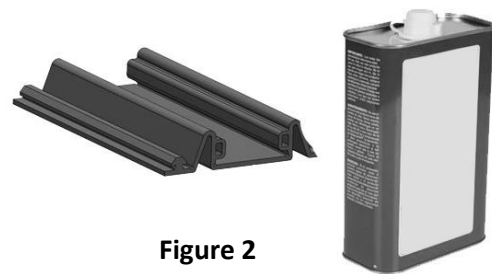

Figure 2
2. Attach the aluminum extrusions with an appropriate length drywall screw (by installer), making sure it penetrates the substrate. When attaching to a concrete wall, drill a hole into concrete using a  $\text{Ø}5/32$ " masonry bit and attach using  $\text{Ø}3/16$ " Tapcon anchors (by installer). Extrusions should be set back  $\frac{1}{4}$ " from wall face as shown in Figure #1. **See Figure 2**
2. Attach the aluminum wall extrusions with an appropriate length drywall screw (by installer), making sure it penetrates the substrate. When attaching to a concrete wall, drill a hole into concrete using a  $\text{Ø}5/32$ " masonry bit and attach using  $\text{Ø}3/16$ " Tapcon anchors (by installer). Extrusion should be set back from wall face  $1/4$ " as shown in Figure #1. **See Figure 2.**
**See Figure 2**